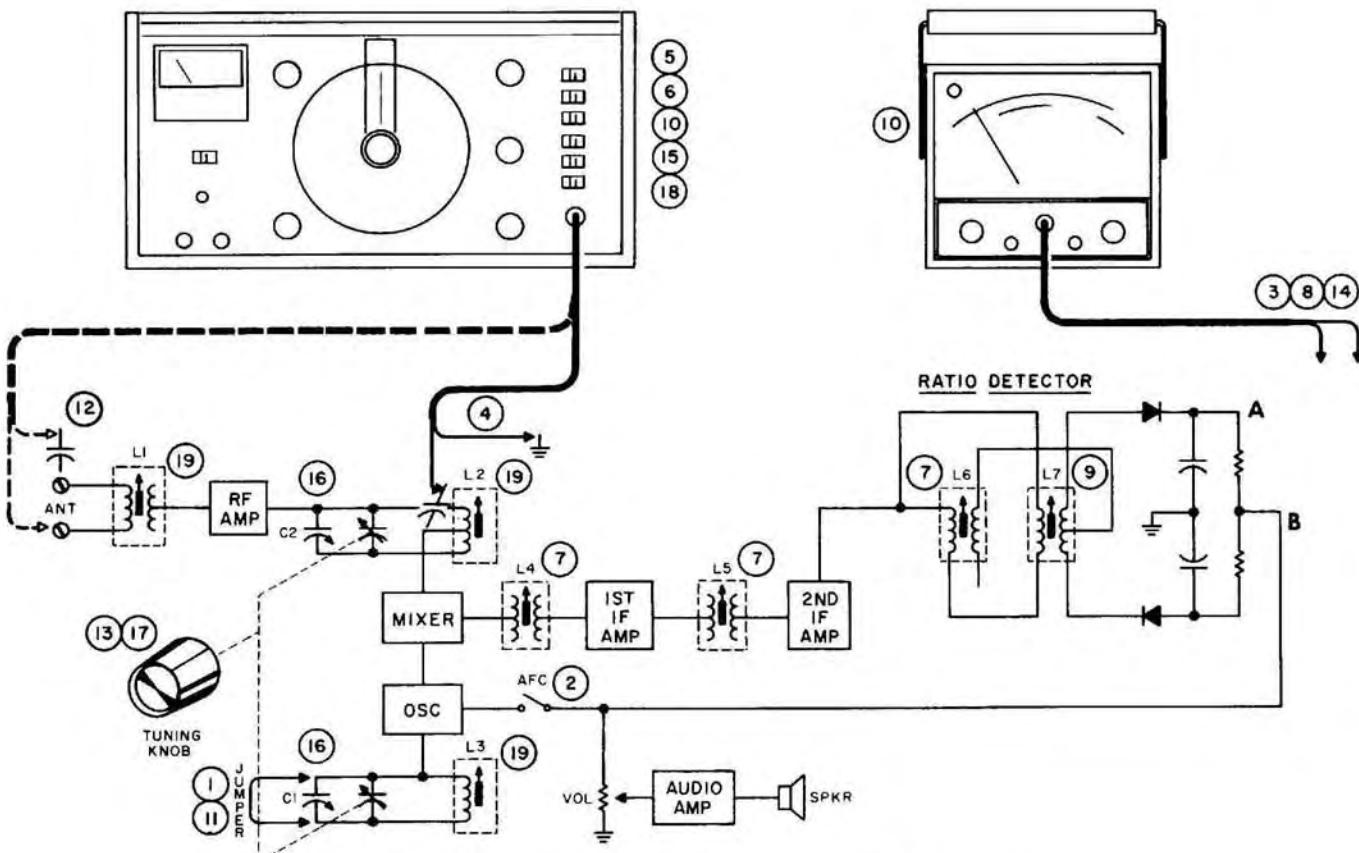

Figure 6. Typical FM Broadcast Band Receiver Adjustment
(Refer to Figure 6)
- Beginning with the primary coil of the ratio detector (or discriminator) and progressing toward the antenna, align each i-f coil for maximum meter reading on the VTVM (in figure 6, adjust L6, L5, and L4 in that order). Reduce the signal generator output level as required to maintain a small meter reading. REPEAT THE ADJUSTMENTS UNTIL NO FURTHER IMPROVEMENT CAN BE OBTAINED.